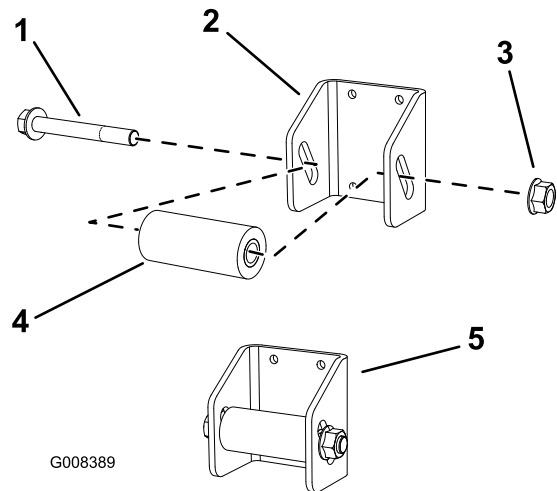

Figure 2
1. Assemble the stops as shown Figure 2. Hand tighten only at this time to allow for later adjustment.